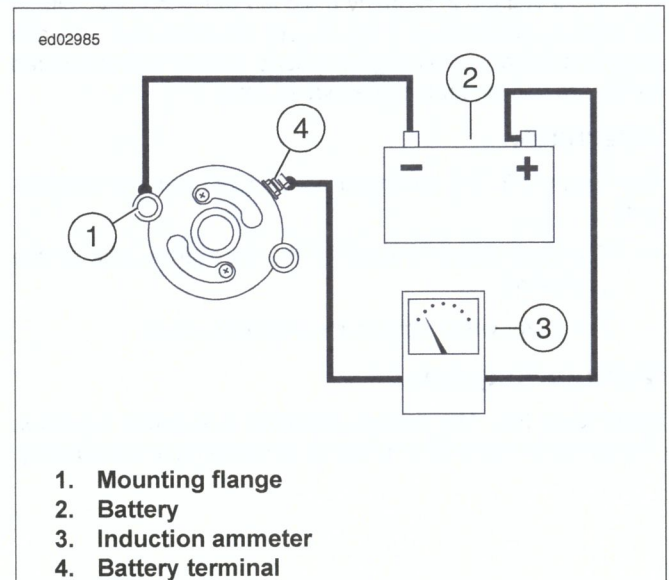

Figure 2-7. Free Running Current Draw Test
2. See Figure 2-7. Attach one heavy jumper cable (6 gauge minimum).